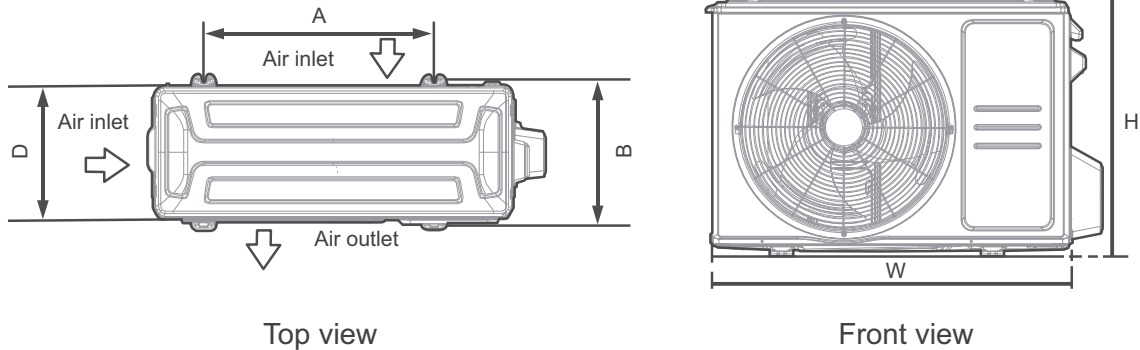

Fig. 22 — Anchor Outdoor unit
- The outdoor unit can be anchored to the ground or to a wall-mounted bracket with bolt (M10). Prepare the installation base of the unit according to Figure 22.